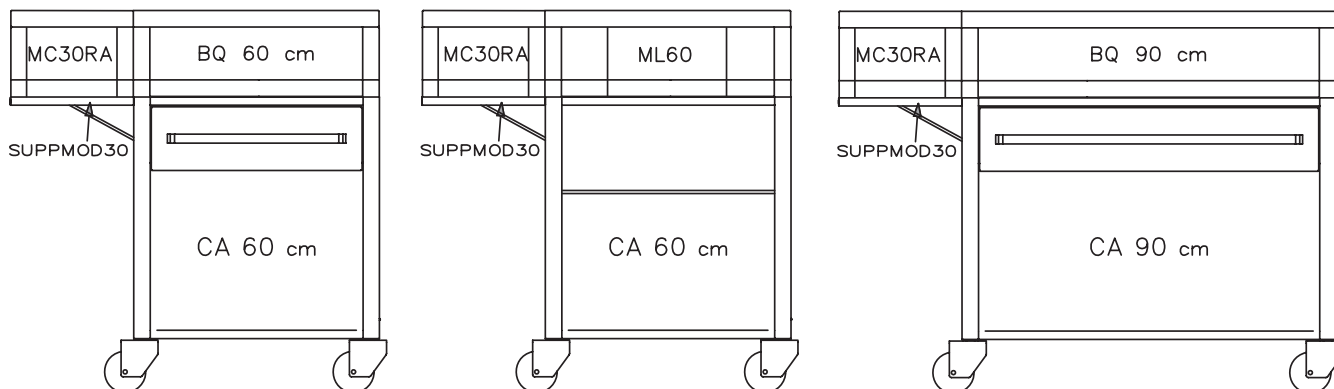

Figure 1
1. Using an external support, as illustrated in figure 1. This type of attachment can be used in the models with a base of 60 cm and 90 cm.